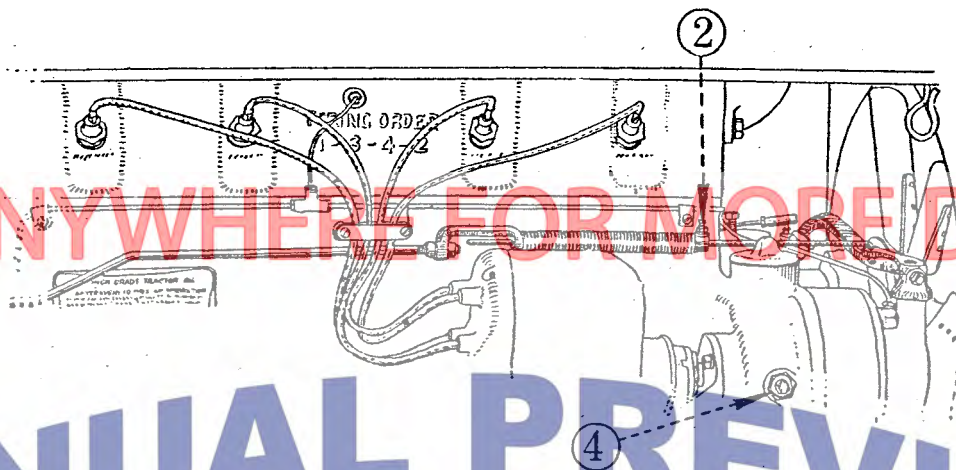

Fig. 14. Governor Adjustment.
2. Fig. 14. The speed is controlled by adjusting tension on governor control spring. If speed is too low, loosen set screw in collar on end of governor spring and put more tension on springs by stretching or moving collar forward. If speed is too high, adjust spring for less tension.
4. Fig. 14. The governor holding screw 4, Fig. 14 should be inspected occasionally to make sure that it is tight. Set the locknut up tight after screw is tightened. The screw must be taken out in order to remove governor assembly.
Remove governor holding screw shown at 4, Fig. 14. Governor assembly can now be lifted out. In the event it sticks in any way, then tap lightly with a babbitt hammer or some other soft metal. When reassembling be sure that all parts are fastened securely in place, and that magneto is correctly retimed.